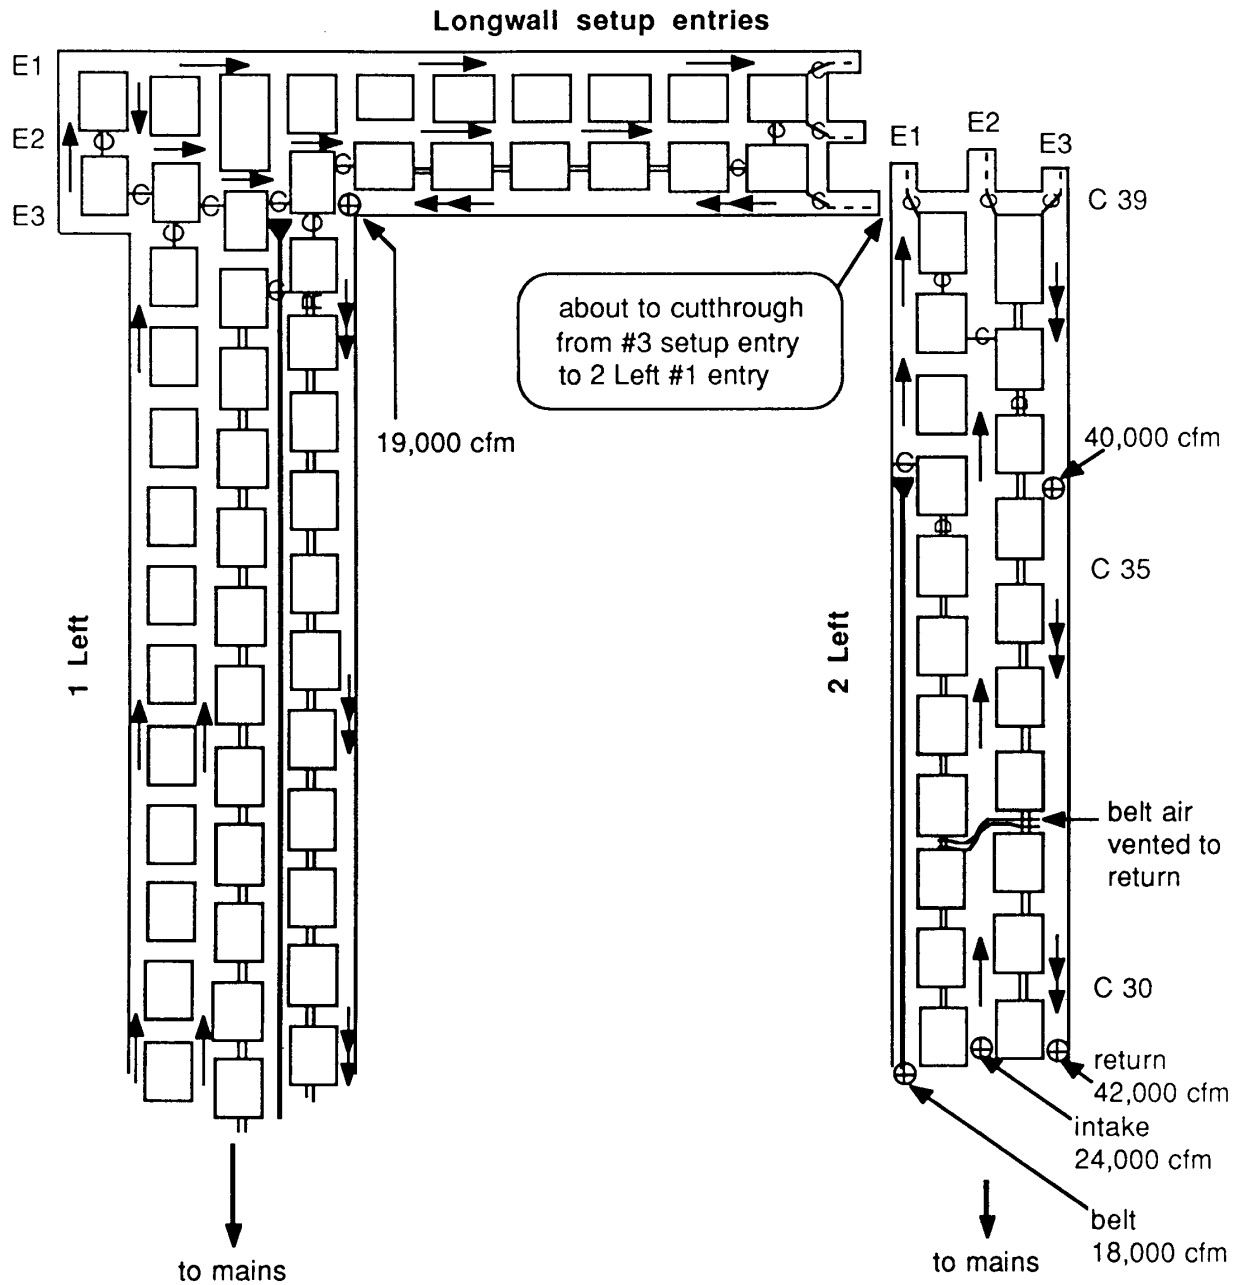
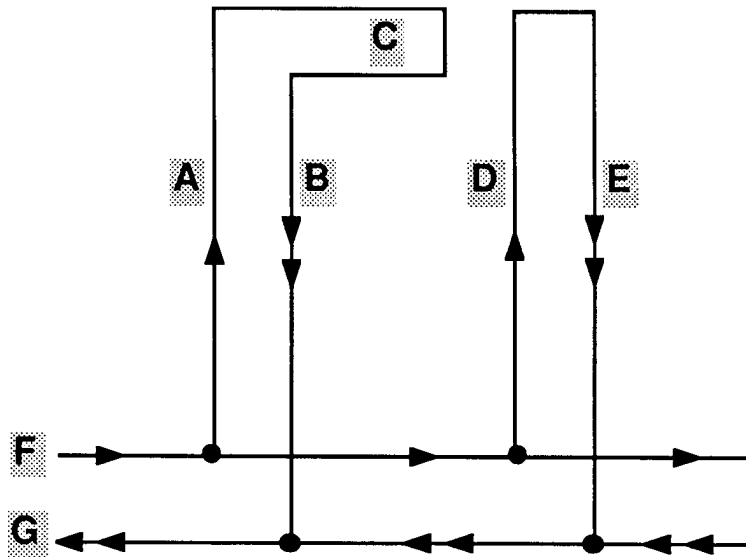
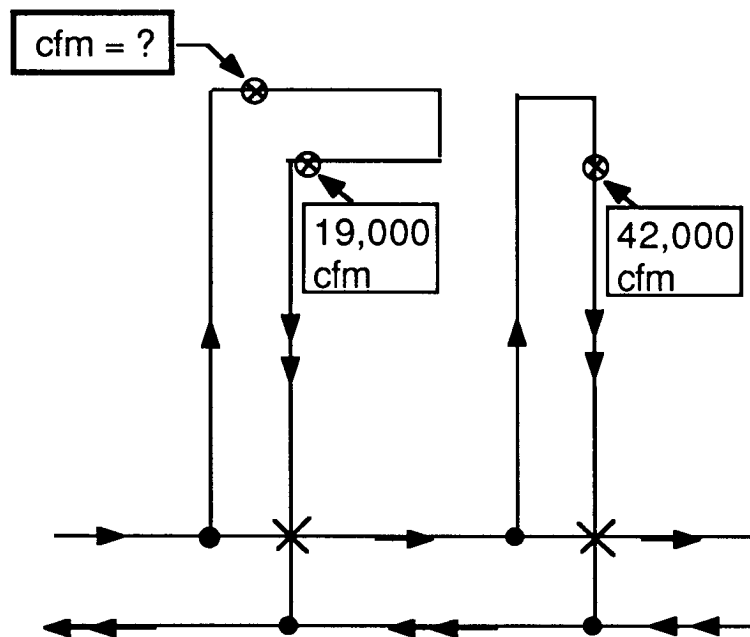

Figure 1: Mine ventilation before cutthrough from setup #3 entry to 2 Left section
Figure 2: Simplified ventilation schematic for the map shown in Figure 1
Figure 3: Estimate the airflow at the point indicated for the map shown in Figure 1
Look at the map in Figure 1 on the next page. It shows two sections being driven 4,800 feet from the mains to develop a retreating longwall panel. The 1 Left section has four entries with a single air split. The 1 Left section crew has finished the entries and most of the longwall setup entries that will soon connect 1 Left with 2 Left. The 2 Left section has three entries with a single air split. The mine is very gassy. It liberates from 2.6 to 3.2 million cubic feet of methane a day at the fan that exhausts 690,000 cfm. The rib of the longwall panel along entry #1 in 2 Left section is especially gassy.
This exercise asks you questions about the ventilation arrangement for the sections shown in Figure 1. Study the map in Figure 1 on the next page. Then do the first question. Do each question in order. Don't jump ahead, but you may look back to earlier questions you have completed.
Figure 2 is a schematic diagram of the map in Figure 1. Study both Figures 1 and 2. Then read the four statements on this page. Select the one true statement. (Choose only ONE unless you are told to "Try Again!")
1. The return air entry for 2 Left section is marked **D** in Figure 2.
2. The mains from which 1 Left and 2 Left sections are ventilated are marked **F** and **G** in Figure 2.
3. The longwall setup entries in Figure 2 are marked with an **A** and **B**.
4. The overcasts where the return air in 1 Left and 2 Left cross the main intakes are shown as black dots in Figure 2.
Look at Figure 1 again. Then look at Figure 3. Approximately how many cfm of air should be present in the 1 Left intake air entry at the point indicated on Figure 3? (Choose only ONE unless you are directed to "Try Again!")
Look at Figure 1 and Figure 3. Remember that the intake air entries for both 1 Left and 2 Left sections get their air from the same intake aircourse in the mains and that both sections also exhaust their return air into the same return aircourse in the mains. Assume the length and cross sectional areas of the two sections are the same.
Using the information about airflow distribution in Figures 1 and 2, where is there most likely to be a regulator? (Choose only ONE unless you are directed to "Try Again!")